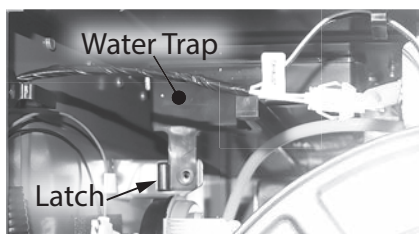

Figure 173 - Latch location
**6** Press the latch securing the air intake trap and carefully pull it from the water heater. See Figure 173.